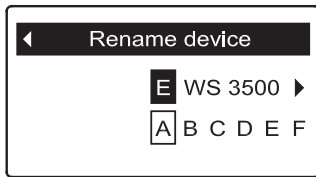

FIG. 126
4. Press the SELECT (○) button to display the Rename device screen (See Figure 126).